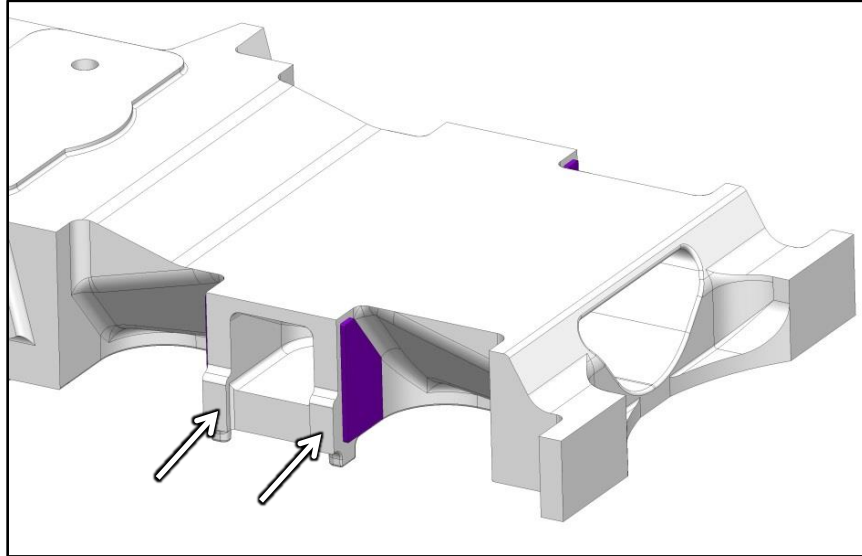

Figure 24: Bolster Longitudinal Stop Wearing Surfaces
The longitudinal stop surfaces on the bolster may also wear if they are contacting with the column wear plates on the side frame. There are four (4) longitudinal stop surfaces on each end of the bolster indicated by the arrows in Figure 24.